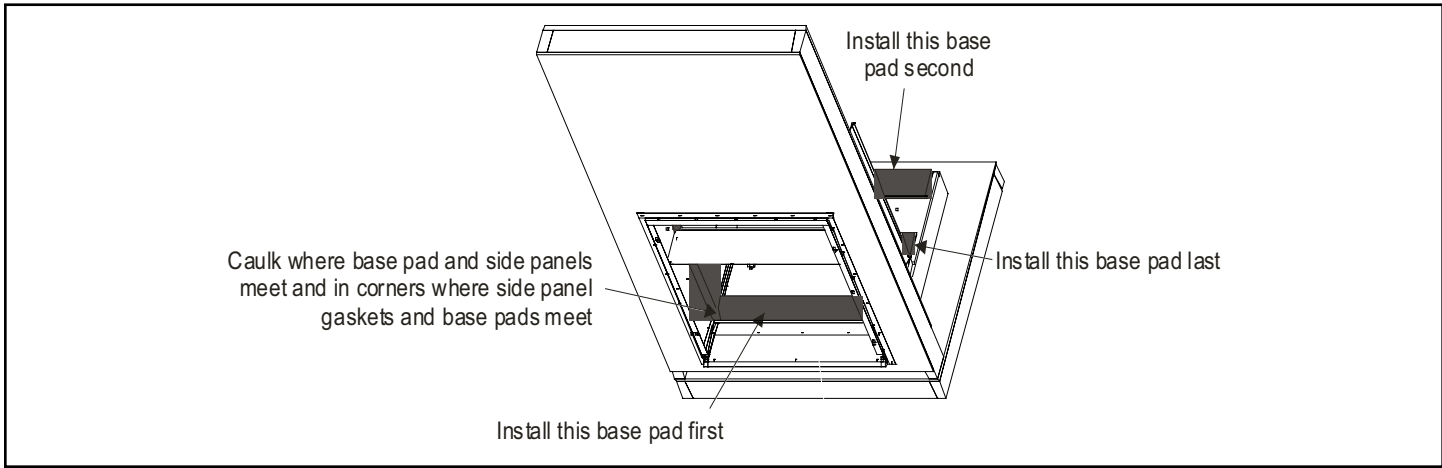

Figure 13. Installing Base Pads
2. Place the second base pad on the plywood riser. The front edge of the pad should align with the front edge of the plywood riser (Figure 13). If the riser has been installed correctly (see Step 5 on Page 5), the front edge of the plywood riser (and base pad) will be aligned with the front edge of the unit when it is installed. Press pad firmly into place.
4. Caulk along the edges of the first base pad where it meets the left and right side panels. Caulk should also be applied in the corners where the base pads and the side panels gaskets meet (Figure 13).